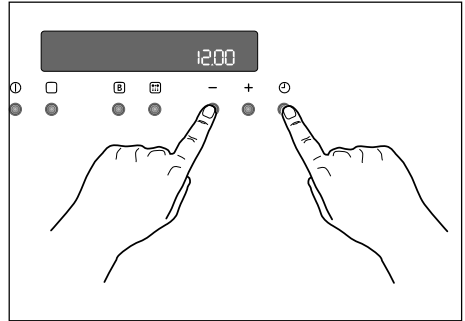

Fig. 15
2. Press the  and "-" buttons at the same time. A short acoustic alarm will be heard and the time 12:00 will appear in the display (Fig. 15).